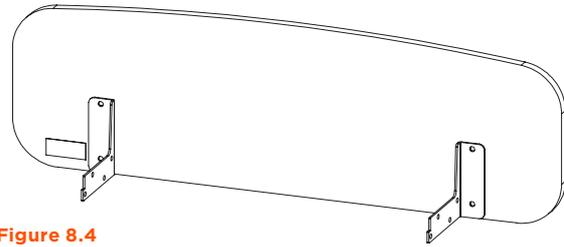

Figure 8.4
- Position the brackets on the footboard as Figure 8.4 - note the orientation of the brackets.